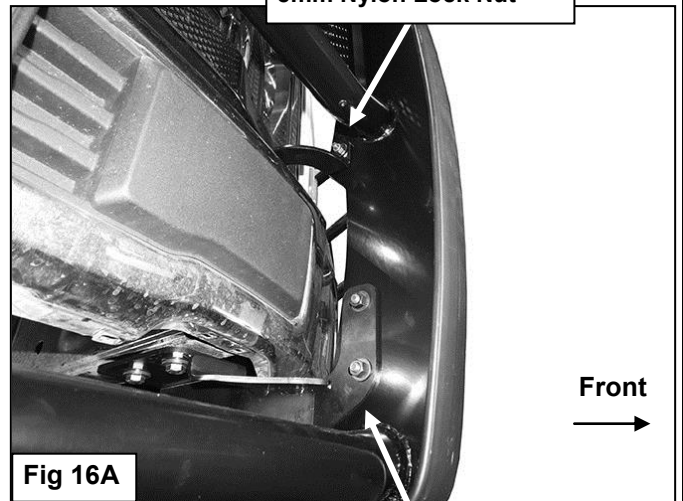

Fig 16A
6. With assistance, place the Grille Guard up to the outside of the Frame Brackets. Attach the Grille Guard to the Brackets with (4) 10mm x 30mm Hex Bolts, (8) 10mm Flat Washers and (4) 10mm Nylon Lock Nuts, (**Figure 16A & 16B**). Snug but do not tighten hardware at this time.
8. Line up the driver side Top Bracket with the hole in the upright on the Grille Guard. Attach the Bracket to the Grille Guard with (1) 8mm x 30mm Hex Bolt, (2) 8mm Flat Washers, (1) 8mm Nylon Lock Nut, (**Figures 16A & 16B**). Do not fully tighten hardware at this time.